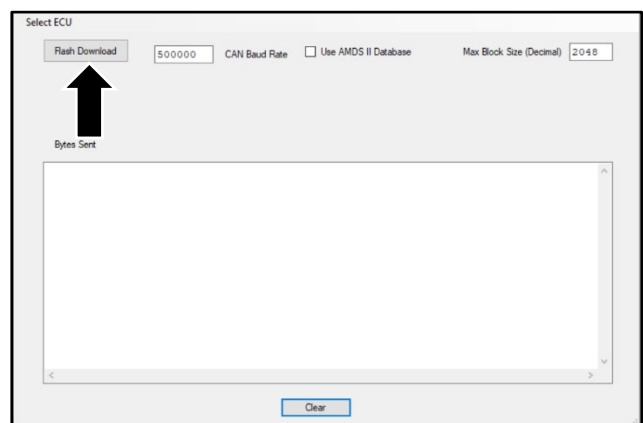

Figure 3
6. Select "Flash Download" (refer to Figure 3).